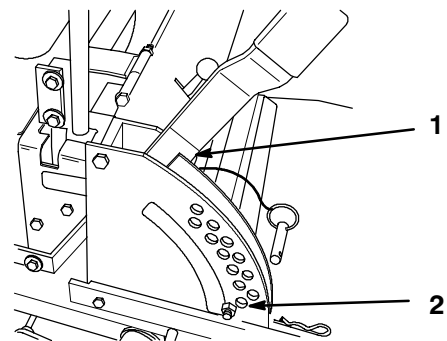
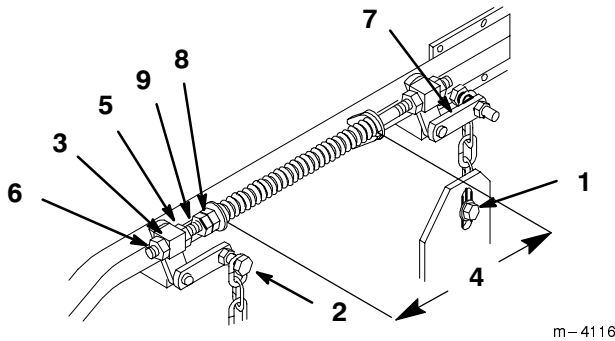

Figure 57
Figure 58
2. Check tire pressure of all four (4) tires. If needed, adjust to 13 psi (90 kPa).
4. Raise the deck to the transport position (Fig. 57). Take force off of the two large deck lift springs by loosening jam nut and front spring nut, in front of each spring, as far as possible (Fig. 58).
5. Place two 1-1/4 in. (35 mm) thick blocks under rear left and right lower edge of mower. Place one 1-3/8 in. (44 mm) block under front center lower edge of mower. Not under anti-scalp roller brackets. Lower mower to the 1-1/2 in. (38 mm) height-of-cut position (Fig. 57).
6. Loosen bottom chain bolt in slot at rear of deck. Repeat for opposite side (Fig. 58).
7. Loosen front and rear locking nut on either side of front swivel. Loosen until front chains are loose and deck is supported by blocks. Repeat for opposite side. (Fig. 58).
8. When hardware is loosened, remaining tension in the large support springs will tend to rotate the deck lift handle up, out of the 1-1/2 in. position. Press down on the rear deck support arm to firmly return the deck lift handle to the 1-1/2 in. position (Fig. 58).
9. While continuing to press down on rear deck support arm, take the slack out of the rear chain and tighten hardware at the bottom (Fig. 58). Downward pressure may now be released. Repeat for opposite side.
14. Raise deck lift lever to the transport position (Fig. 57).
15. Adjust compression springs by turning the front spring nuts so the distance between the two large washers is 10-1/4" (260 mm). Then tighten jam nut (Fig. 58).